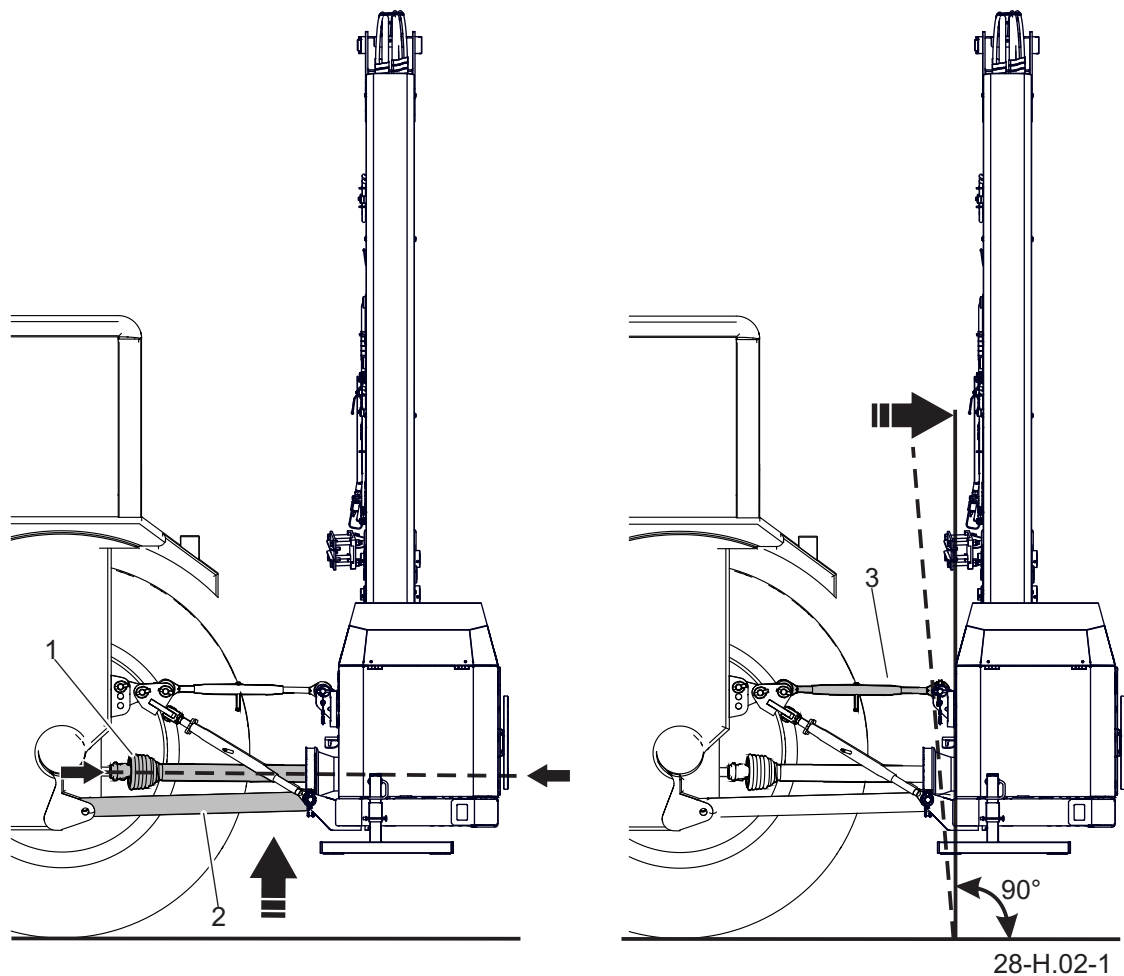

Figure 4.2 Position the multifunction arm in relation to the ground.
(FIGURE 4.2) of the rear three-point linkage of the carrier vehicle (tractor) to such a height that drive shaft (1) connecting the multifunction arm's multiplier gear box with PTO shaft of the carrier vehicle (tractor) is positioned horizontally with regard to the ground.
The proper alignment of the PTO shaft of the carrier vehicle (tractor) with the shaft of the machine's drive system significantly extends the life of the drive shaft (1) (Figure 4.2).